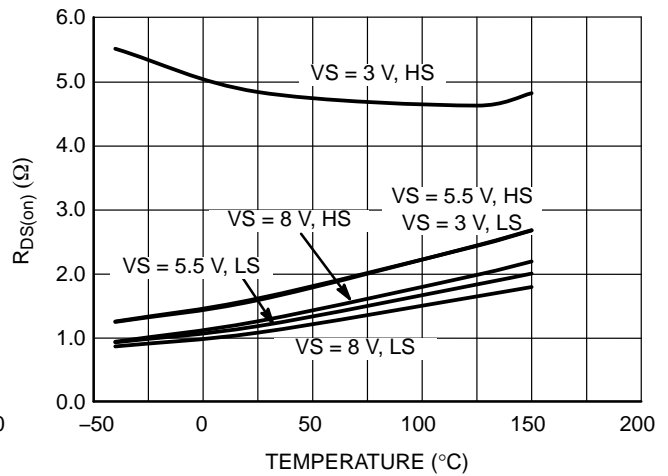

Figure 12. $R_{DS(on)}$ vs. Temperature
- Refer to Figures 12 and 15 for $R_{DS(on)}$ behavior.